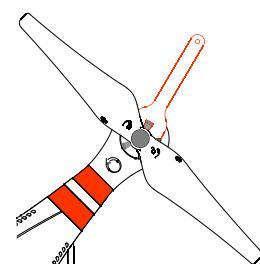

Figure 2-3
- ( Figure 2-3 ) Keep the motor deadlocked in place with the assistant wrench (or one hand) and remove the propeller according to the un-fastening instructions.